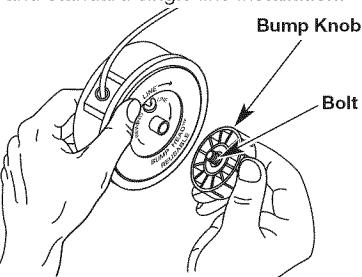

Fig. 14
- Hold the outer spool with one hand and unscrew the bump knob counterclockwise (Fig. 14). Inspect the bolt inside the bump knob to make sure it moves freely. Replace the bump knob if damaged.
counterclockwise (Fig. 14). Inspect the bolt inside the bump knob to make sure it moves freely. Replace the bump knob if damaged.